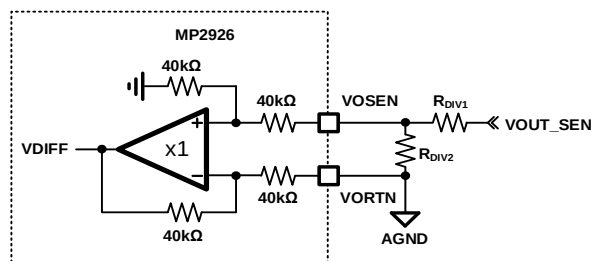

Figure 8: Output Divider Connections when Remote Sense Is Not Applied
For output voltage designs above the VOSEN pin specifications, connect the output divider carefully (see Figure 8). Connect VORTN directly to AGND to disable remote sensing.
Calculate the voltage divider ratio in Figure 8 with Equation (5):